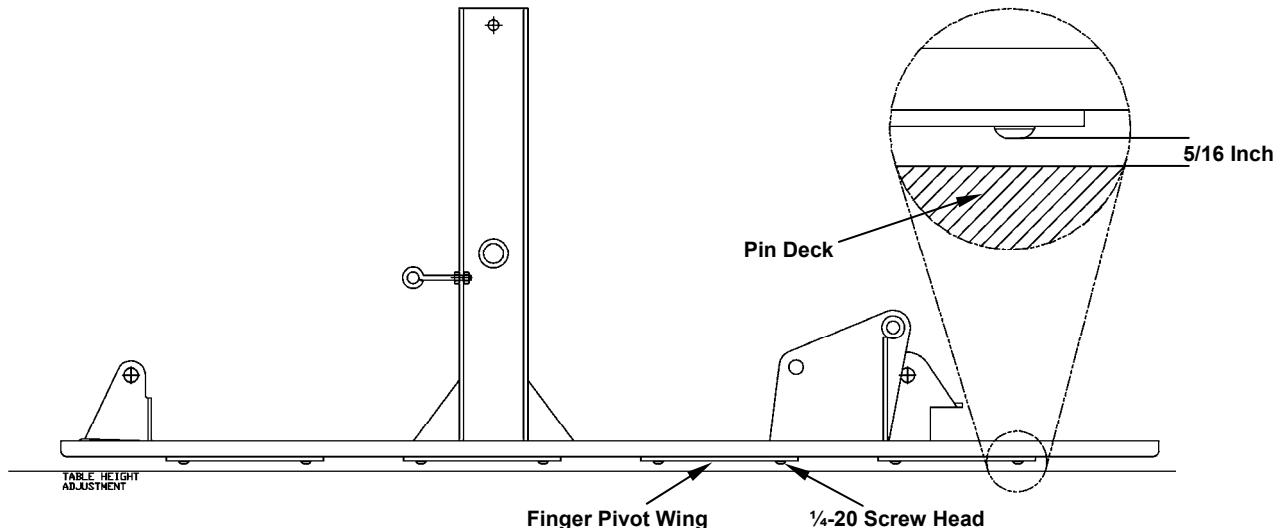

Figure 4.2-6
4. Adjust the Table clevis so that the Pinspotter Gauge Tool (Figure 4.3-5), laying flat on the pin deck, just fits between the pin deck and Button Head Screw in the center of each wing bracket at the 1, 8 and 10 pin openings resulting in a 5/16-inch gap between the screw head and the pin deck (see Figure 4.2-6).